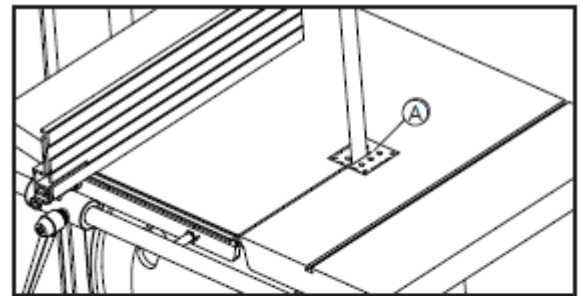

Fig.4.4.1
- Remove the insert (A) Fig.4.4.1 on the work table.